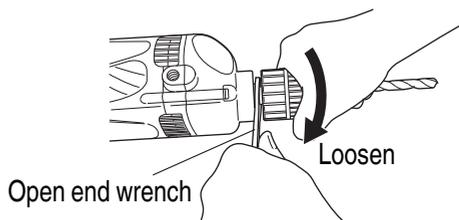

Fig. 3
- (2) Firmly grasp the ring and turn the sleeve in the clockwise direction. Tighten securely.
- (3) To remove the bit, firmly grasp the ring and turn the sleeve in the counterclockwise direction.
- (4) If it is hard to loosen the sleeve, fix the spindle using the open-end wrench, hold the sleeve firmly, and turn it in the loosening direction (counterclockwise when viewed from the front). (Fig. 3)